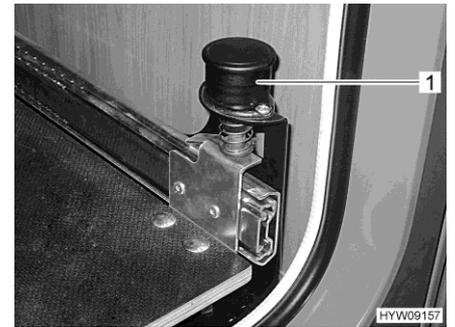

Fig. 92 Knob with locking device
- Pull the knob (Fig. 92,1) upwards. The gas bottle compartment pull-out is unlocked.